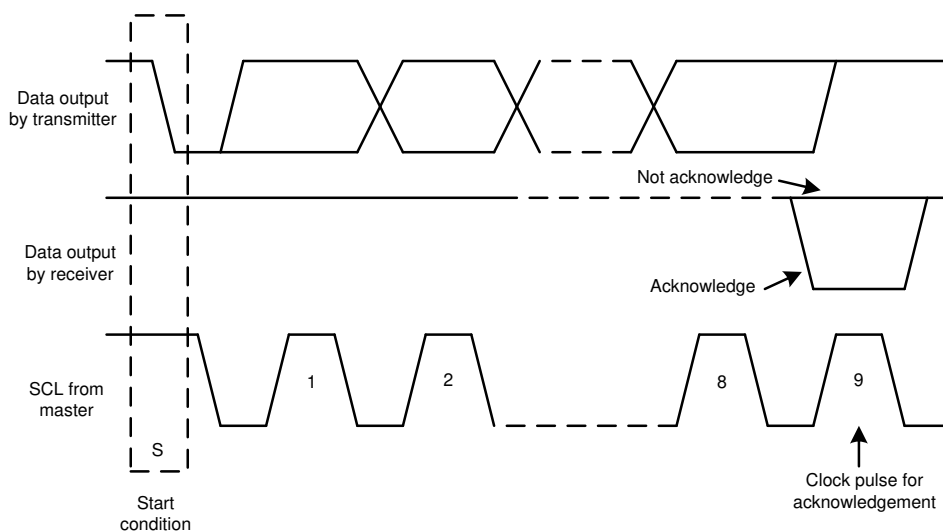
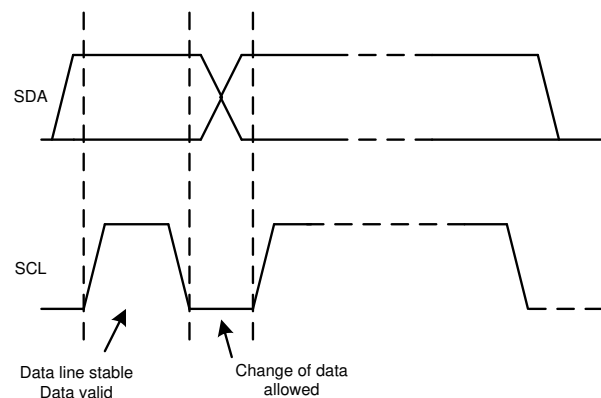

Figure 8-3. Acknowledge and Not Acknowledge on the I²C Bus
Figure 8-5. Bit Transfer on the I²C Bus
Other than specific timing signals, the I²C interface works with serial bytes. At the end of each byte, a ninth clock cycle generates and detects an acknowledge signal. An acknowledge is when the SDA line is pulled low during the high period of the ninth clock cycle. A not-acknowledge is when the SDA line is left high during the high period of the ninth clock cycle, as shown in Figure 8-3.
2. The master then generates the SCL pulses, and transmits the 7-bit address and the read/write direction bit ($\overline{R/W}$) on the SDA line. During all transmissions, the master makes sure that data are valid. A valid data condition requires the SDA line to be stable during the entire high period of the clock pulse, as shown in Figure 8-5. All devices recognize the address sent by the master and compare the address to the respective internal fixed address. Only the slave device with a matching address generates an acknowledge by pulling the SDA line low during the entire high period of the 9th SCL cycle, as shown in Figure 8-3. When the master detects this acknowledge, the communication link with a slave has been established.